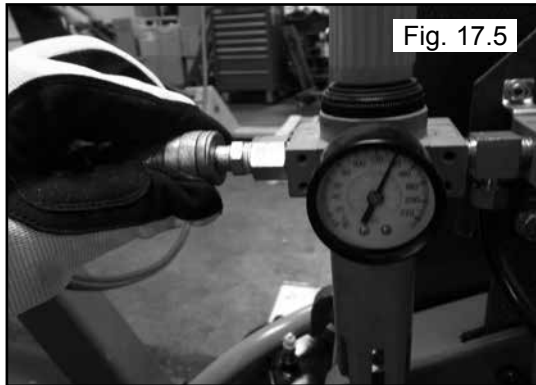

Fig. 17.5
1. Disconnect air supply to machine. (See Fig. 17.5)